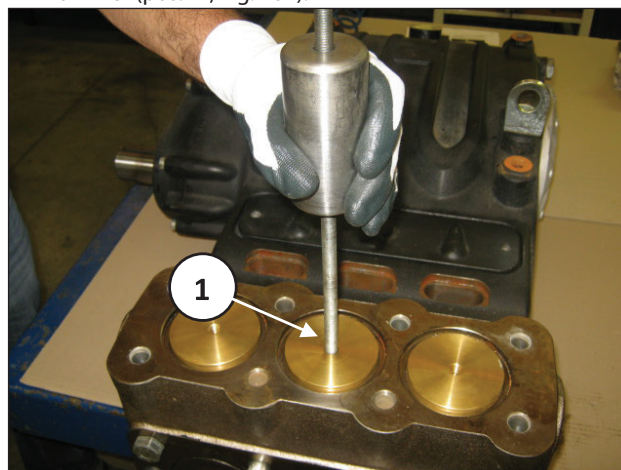

Fig. 102
- B) Remove the valve plugs by means of an M10 extractor hammer (pos. ①, Fig. 102).